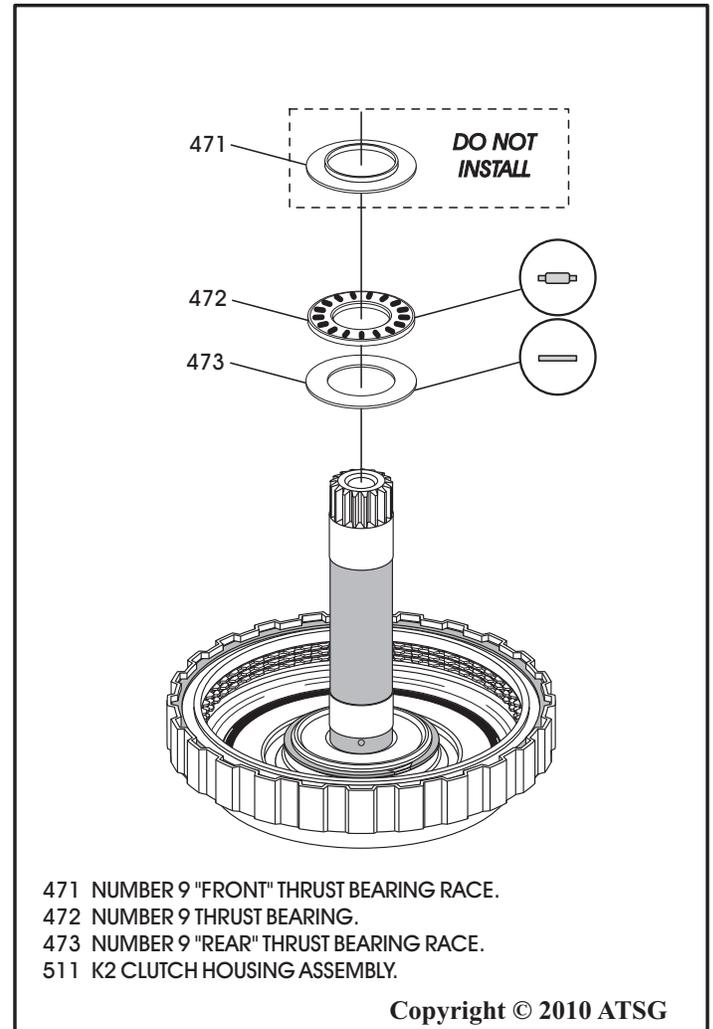

Figure 127
17. Turn the K2 clutch housing assembly over again and install the number 9 "rear" thrust bearing race, as shown in Figure 127, and retain with a small amount of Trans-Jel®.
18. Install the K2 clutch housing number 9 thrust bearing, as shown in Figure 127, and retain with Trans-Jel®.
Note: "Do Not" install the number 9 "front" thrust bearing race (471) illustrated in Figure 127. This will be installed on the rear sun gear of the rear planetary.